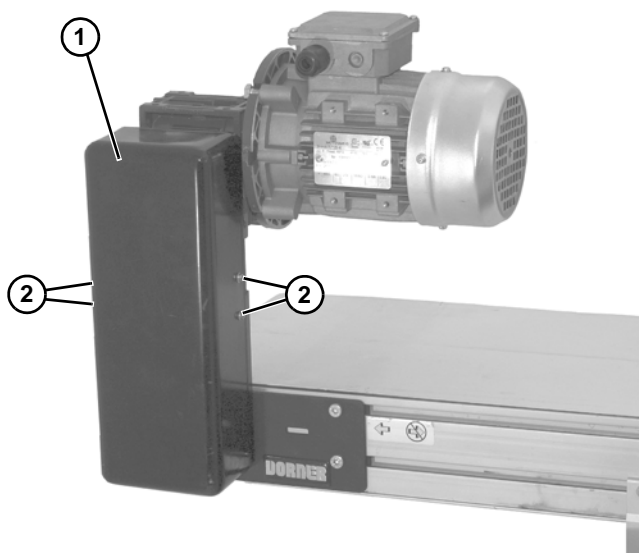

Figure 13
10. Install cover (**Figure 13, item 1**) with four (4) screws (**Figure 13, item 2**). Tighten screws to 35 in-lb (4 Nm).
1. Remove four (4) screws (**Figure 13, item 2**) and remove cover (**Figure 13, item 1**).
4. Install cover (**Figure 13, item 1**) with four (4) screws (**Figure 13, item 2**). Tighten screws to 35 in-lb (4 Nm).
6. Install cover (**Figure 13, item 1**) with four (4) screws (**Figure 13, item 2**). Tighten screws to 35 in-lb (4 Nm).